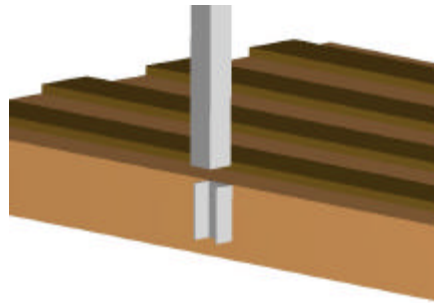

figure 2.1
- Method 1: Screw the side C-brackets to the track and set the legs of the finish line into the brackets Refer to figure 2.1 for a visual example of this method.